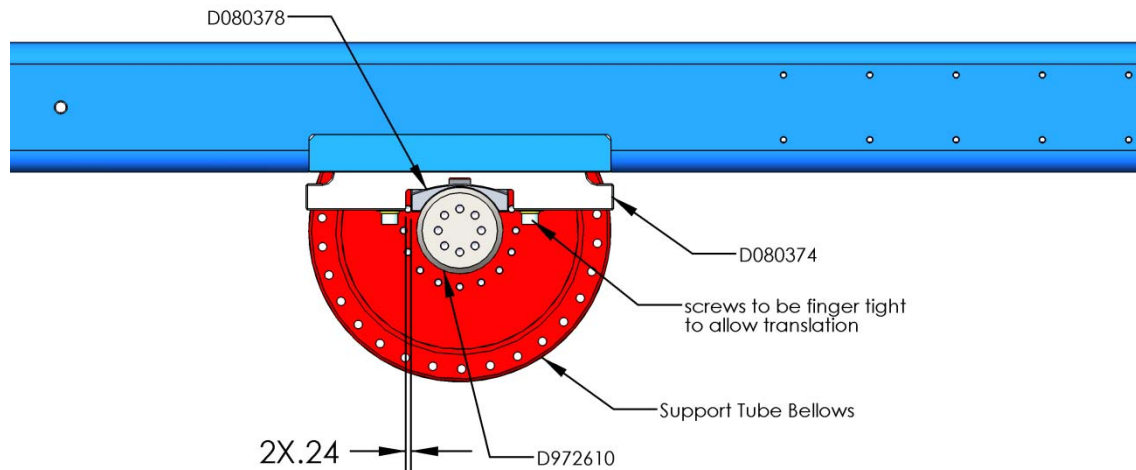

Figure 10
6.2 With the Cross Beam in place, gently lower the cross beam as it lowers the load cell reading will change lower the beam until 0-10 lbs is subtracted from the readout this will apply a small preload. Now center the clamp sleeve (D080378) to the support tube (D972610) by rotating it, then center the clamp base (d080374), by translating it side to side, to the Support Shaft (D972610). Use gage blocks to measure side to side spacing must be equal. Nominal dim is .24 inches Figure 10.